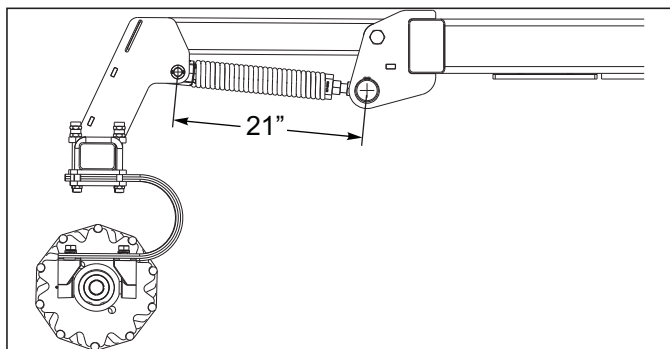

Figure 4-4: Conditioner Reel Setting
1. Initially set the depth of the conditioner reel with the bottom of the reel approximately 1" above the bottom of the disc gang blades. This will be approximately 21" spring centers (**for 24" disc blades**) See Figure 4-4.